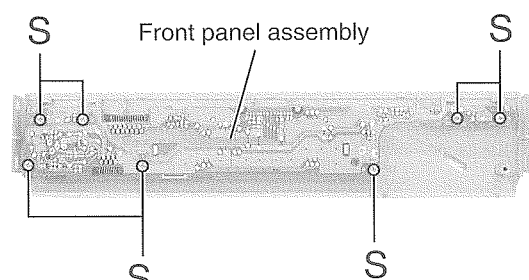

Fig.27
■Removing the front panel board (See Fig.27)